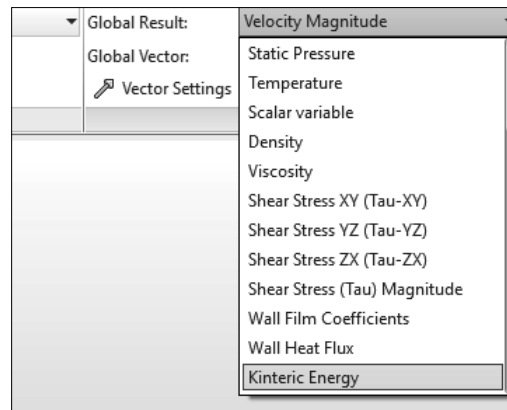

Figure-102. Kinetic Energy
- Click in the **Global Results** drop-down to view recently created result quantity; refer to Figure-102.